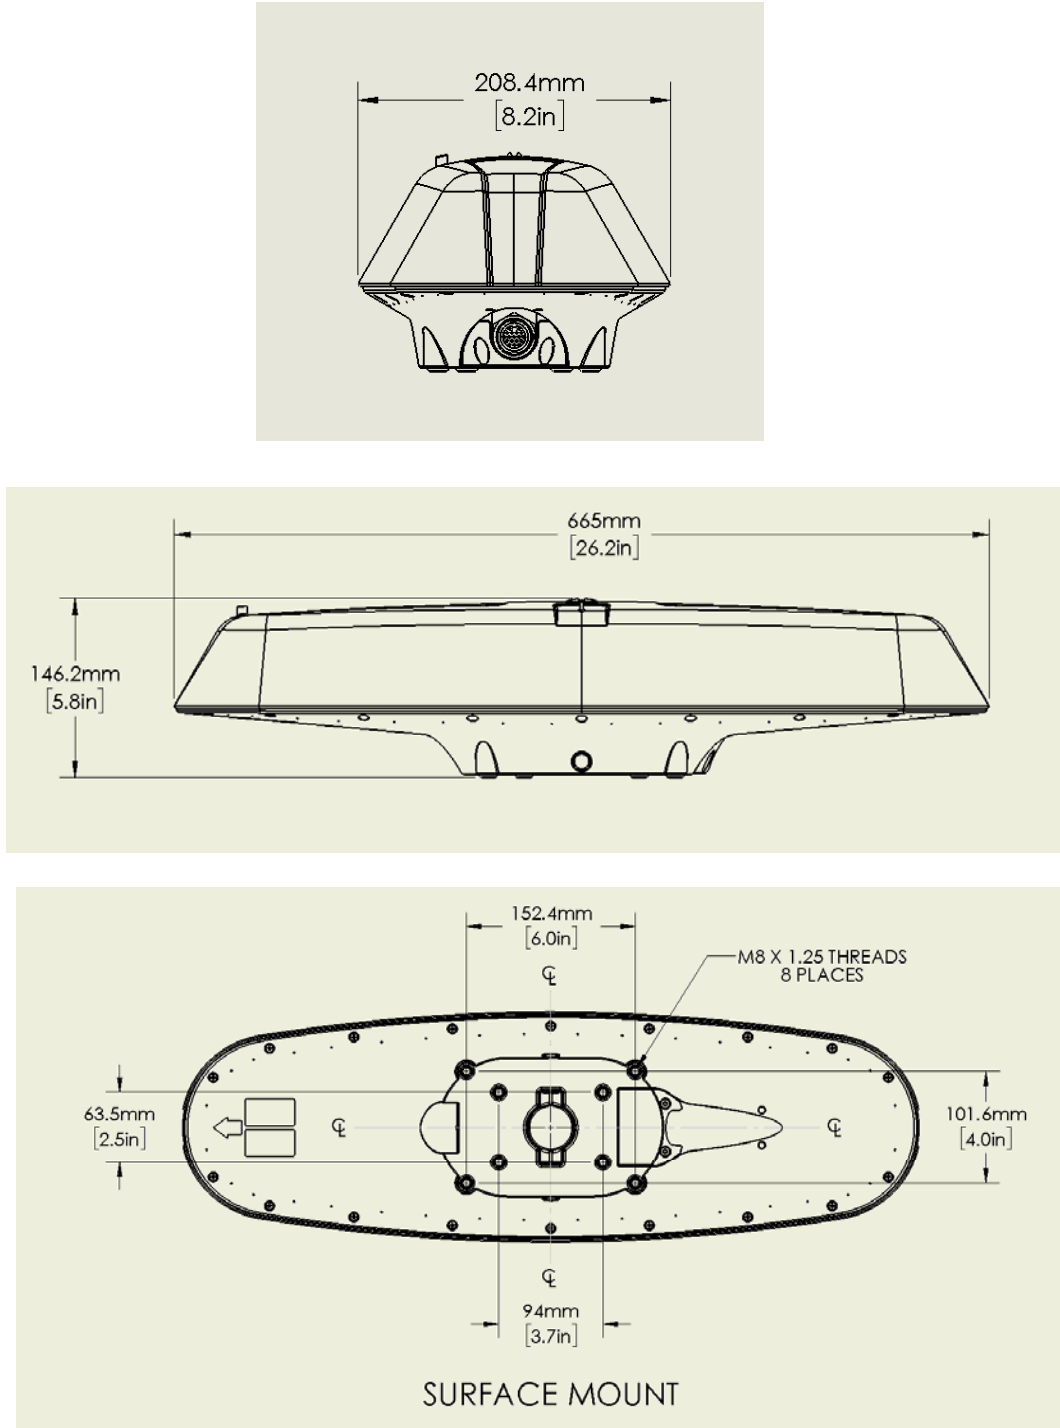

Figure 2-6: V103/113 Dimensions
- **Flush mount** - The bottom of the V103/113 contains eight M8-1.25 holes for flush mounting the unit to a flat surface (see Figure 2-6). The eight holes comprise two sets of four holes. The inner four holes are in the same location as the V102, allowing you to use the V103/113 as a drop-in replacement. The outer four holes provide a wider mounting option.
- **Pole mount** - The bottom of the V103/113 contains a mounting hole (1" thread, 0.9" depth) for easy pole mounting. Hand tighten until snug (do not overtighten). The set screws on the long sides of the base (see middle drawing in Figure 2-6) allow you to secure the V103/113 in place (3/16" Allen wrench not included).
Figure 2-6 illustrates the physical dimensions of the V103/113.
3. Use the set screws on the long sides of the base (see Figure 2-6) to secure the V103/113 in place (3/16" Allen wrench not included).